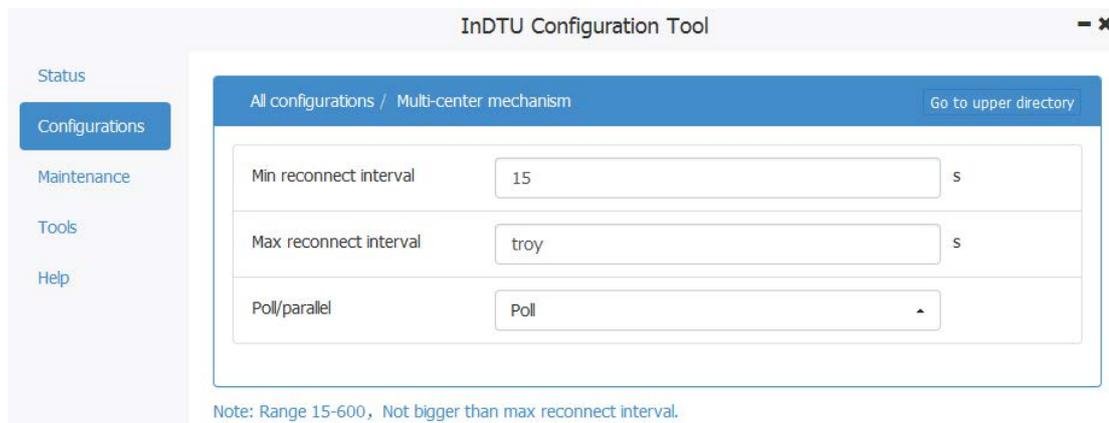

Figure 2-29 "Troy" mode
Step 3: Choose **All configurations** > **GPRS**, and set **APN**, as shown in Figure 2-29. The following figure shows an example for private network, in which the APN is in Beijing. Modify the settings according to your region.
save configuration and restart it, as shown in Figure 2-29. When the DTU work in "troy" mode. The LED "Status" and "SIM" will blink fast alternatively.